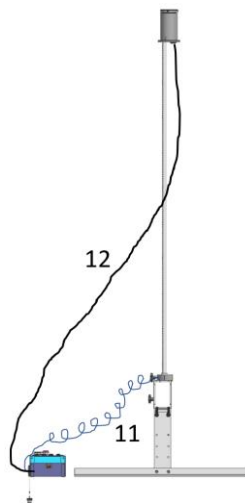

Figure 19: Connecting the sensor cable (12) and the motor cable (11) to the controller unit.
- 4) Check, that all the plugs are free of snow. As it is shown in Figure 19, the sensor cable (12) has to be connected at the upper end of the rod (head) and on the controller unit, whereas the motor cable (11) has to be connected on the controller unit. For that step, the controller unit is still switched OFF.